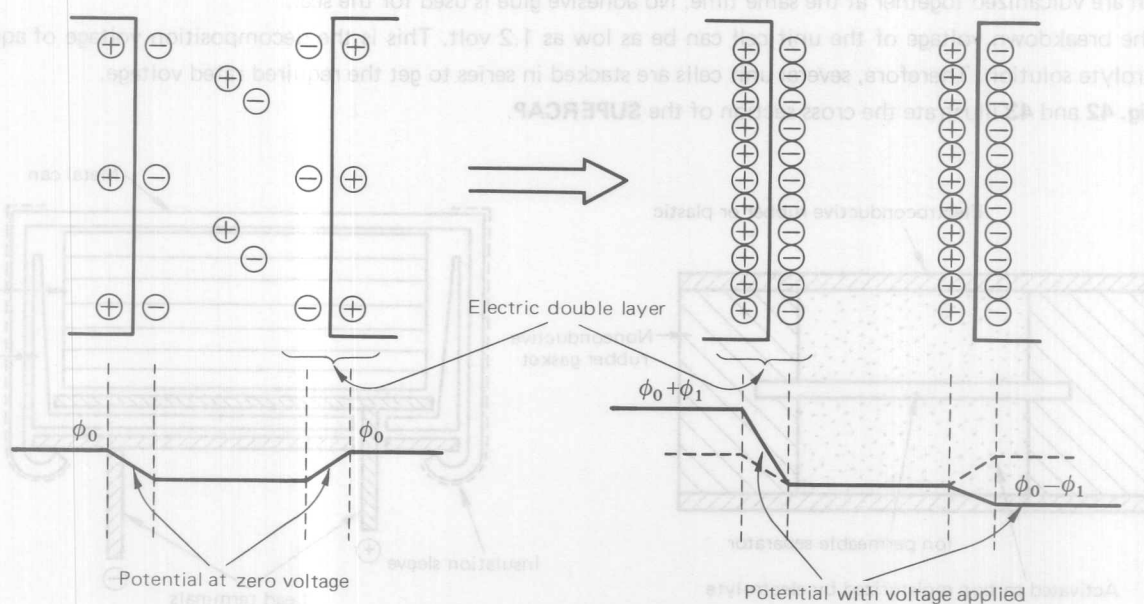

Fig. 40 Basic Model of SUPERCAP
The basic model of **SUPERCAP** is shown in **Fig. 40**.
In **Fig. 40** if ' ϕ ' at the time of no-voltage is ' ϕ_0 ' then, ' N_0 ' is shown in **formula (5)**.